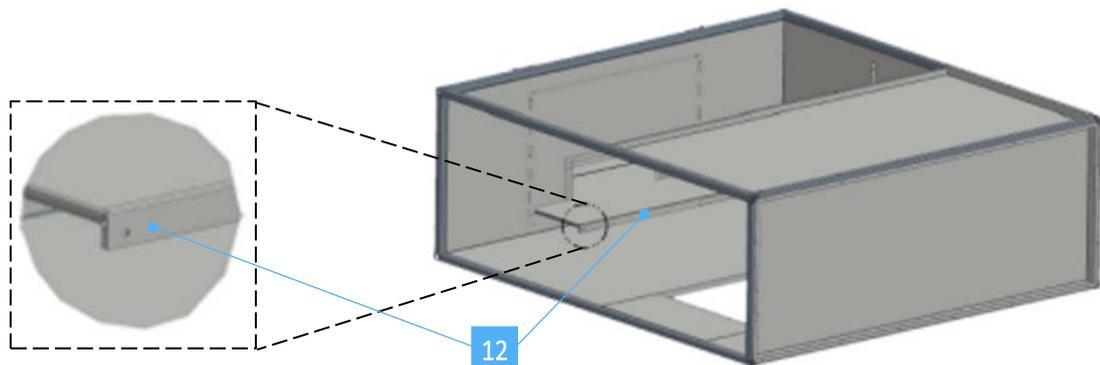

Fig. 12 *Locking the small mirror*
- 8 Fit the locking profile [12] (PN 73-00082-01) using the M4 screws and nuts supplied. Make sure that the latter is inserted into the two side guides (see detail in figure 12).